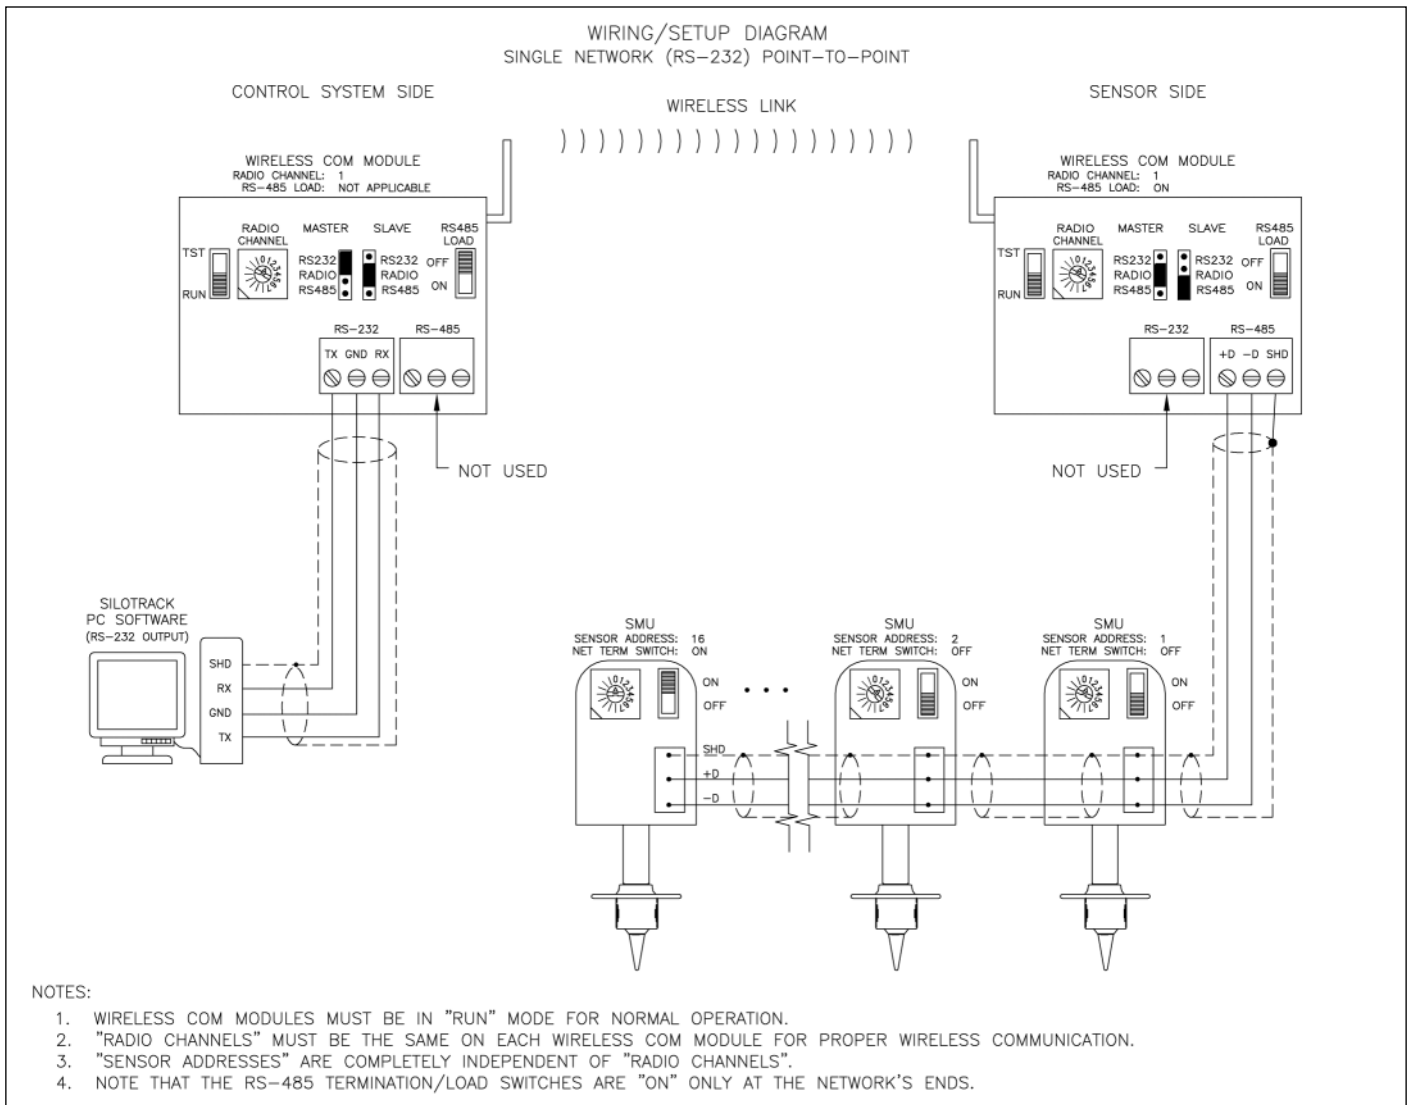

Figure 8
**1) RS-232 Connection (if applicable):** (See Figure 8) A single network **SiloTrack**/PC system can be connected directly to the Wireless Communication Interface using the PC's RS-232 serial port. RS-232 is intended for use in office environments where interconnection distances are short (less than 12 feet) and where heavy electrical circuits (motors, contactors, etc.) are not present. The interconnection must be done point-to-point (no multi-dropping or networking) with a 3-conductor cable (such as Belden 9533 or Alpha 6303). Determine the type of connector on the PC, source a suitable mating connector (See Table 1) then interconnect as described in Table 2.
- 1) Radio channel:** The **SiloPatrol**® communication system only allows 16 sensors per network. In single network (16 or less sensors) applications, a single radio channel is sufficient. All Wireless Communication Interfaces expected to be on the same network of 1-16 SMUs must be set on the same radio channel. The rotary switch (See Figure 8 or 9) will select the RF radio channel that you wish to operate on (selections 1-7, others are invalid). In applications with greater than 16 sensors, multiple networks are needed. When multiple networks are required and Wireless Communication Interfaces are used, different radio channels are needed for each network to assure data from one control system network does not collide with data from a different control system network. *(Note: For clarity and convenience, when using a SiloTrack system, it may be desirable to match the radio channel with the network number. This should not be confused with the SMU sensor address.)*
- 2) Master:** (See Figure 8 or 9) This selects the medium that the control system (**SiloTrack**) will use to communicate to the Wireless Communication Interface. A jumper clip is provided for selection. Position jumper clip on the two pins associated with one of three possible selections:
- 3) Slave:** (See Figure 8 or 9) This selects the medium that the slave sensors (SMUs) will use to communicate to the Wireless Communication Interface. A jumper clip is provided for selection. Position jumper clip on the two pins associated with one of three possible selections:
- 4) RS485 load:** (See Figure 8 or 9) This switch is used to terminate the RS-485 link to achieve maximum communication reliability. If no RS-485 communications is to be used, simply turn "off" this switch. If there is to be RS485 communications, then you must determine if the Wireless Communication Interface is physically on the end of the RS-485 wiring circuit. If so, then the load switch should be turned "on". If the Wireless Communication Interface is not at the end of the wiring circuit (i.e. two wire pairs branch off in two different directions) then this switch should be turned "off". This evaluation should be conducted for every device on the RS-485 network.